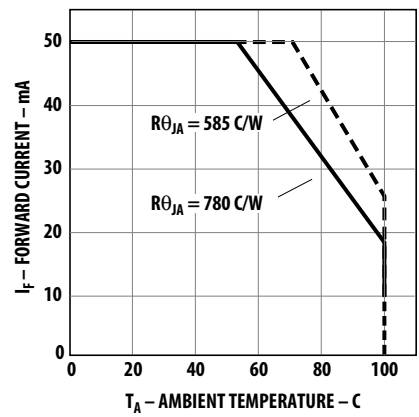

Figure 4. Maximum forward current vs. ambient temperature. Derating based on  $T_{JMAX} = 130^{\circ}\text{C}$ .
- Derate linearly as shown in Figure 4.